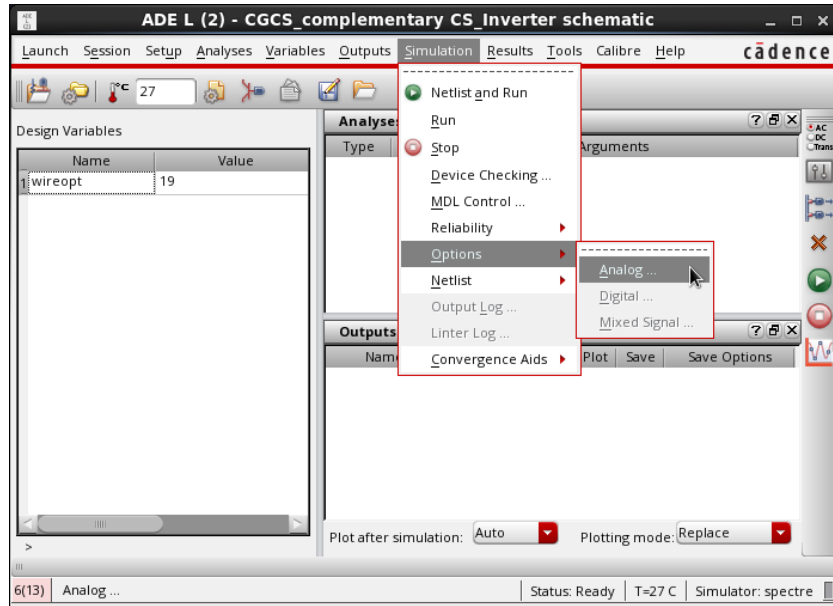
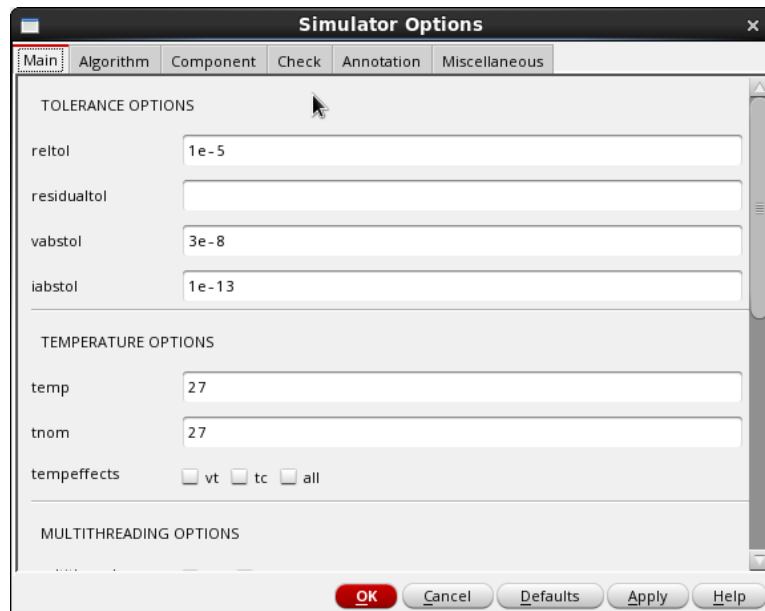

Fig. 3
Fig. 4
Of course, nothing good comes free, we pay it back by larger memory usage and longer simulation time. Therefore, the values shown in Fig. 3 are chosen for a moderate but satisfactory precision.
- Under Simulation>Options>Analog (Fig. 3), set the values in TOLERANCE OPTIONS according to Fig. 4.